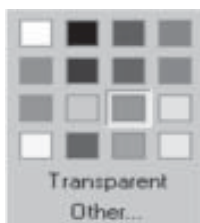

Fig. 4-41 Set the Background of the Hot Area
2. Set Hot Area Background. Click the fast icon  of background setup, the dialogue block as in Fig. 4-41 of color will pop out. And in the diagram, the background color can be set.